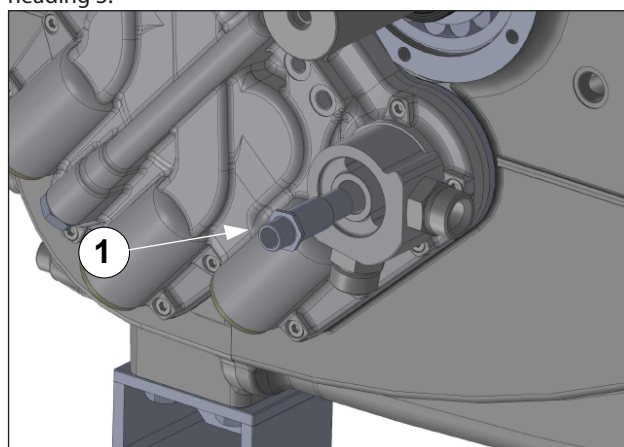

Fig. 130
Install the air-oil exchanger adapter unit (pos. ①, Fig. 130) and adjust the fixing screw with a torque wrench as described in heading 3.